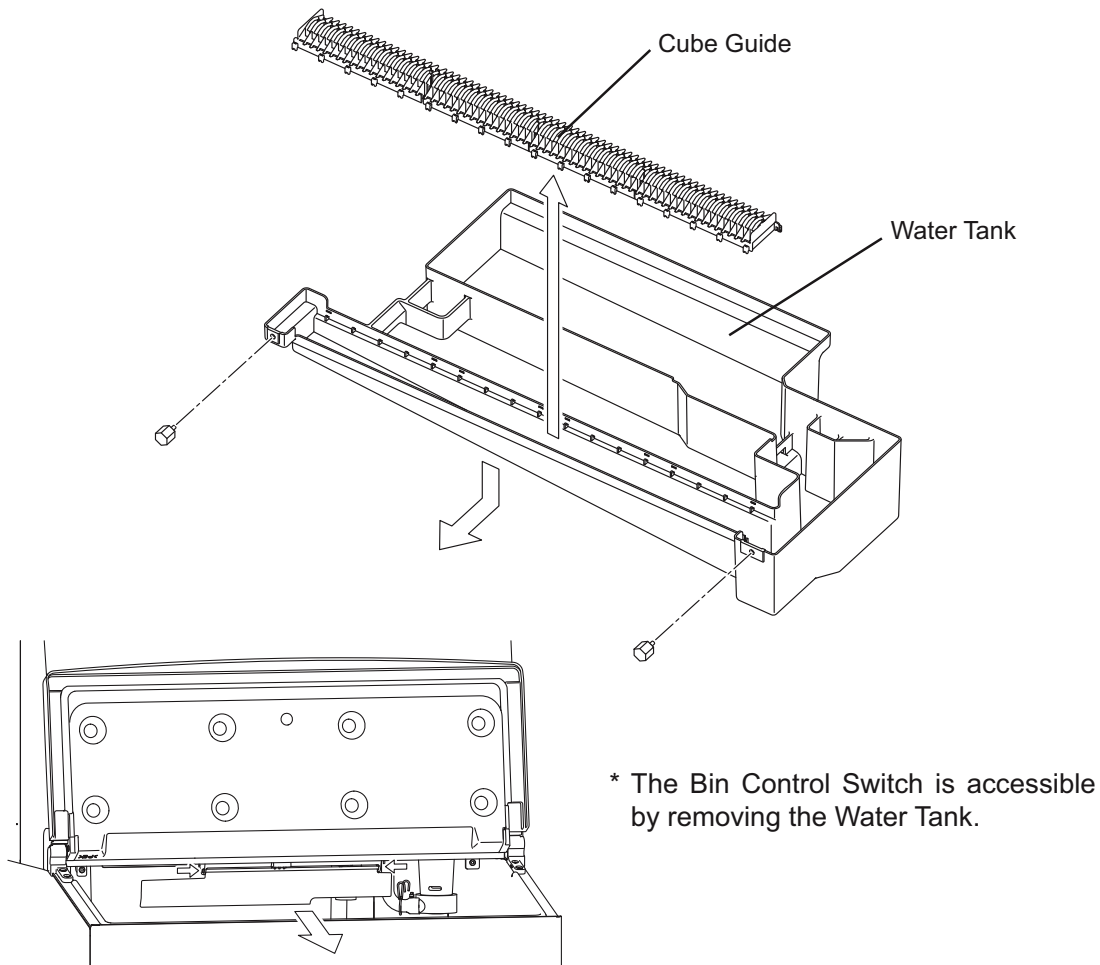

Fig. 8
15) Pull the Cube Guides (quantity varies depending on model) upward to remove them from the Water Tank. They are snapped in place. See Fig. 8.